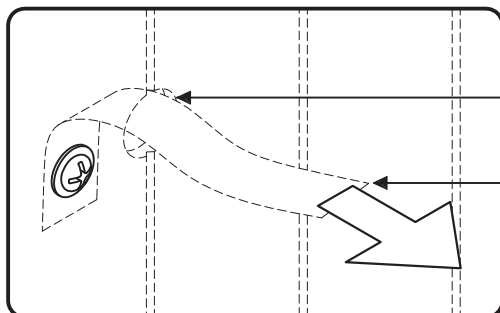

Figure 4
Move unit back into place and insert Tipover Restraint into unit through hole in Back Panel (G). (See Figure 4)